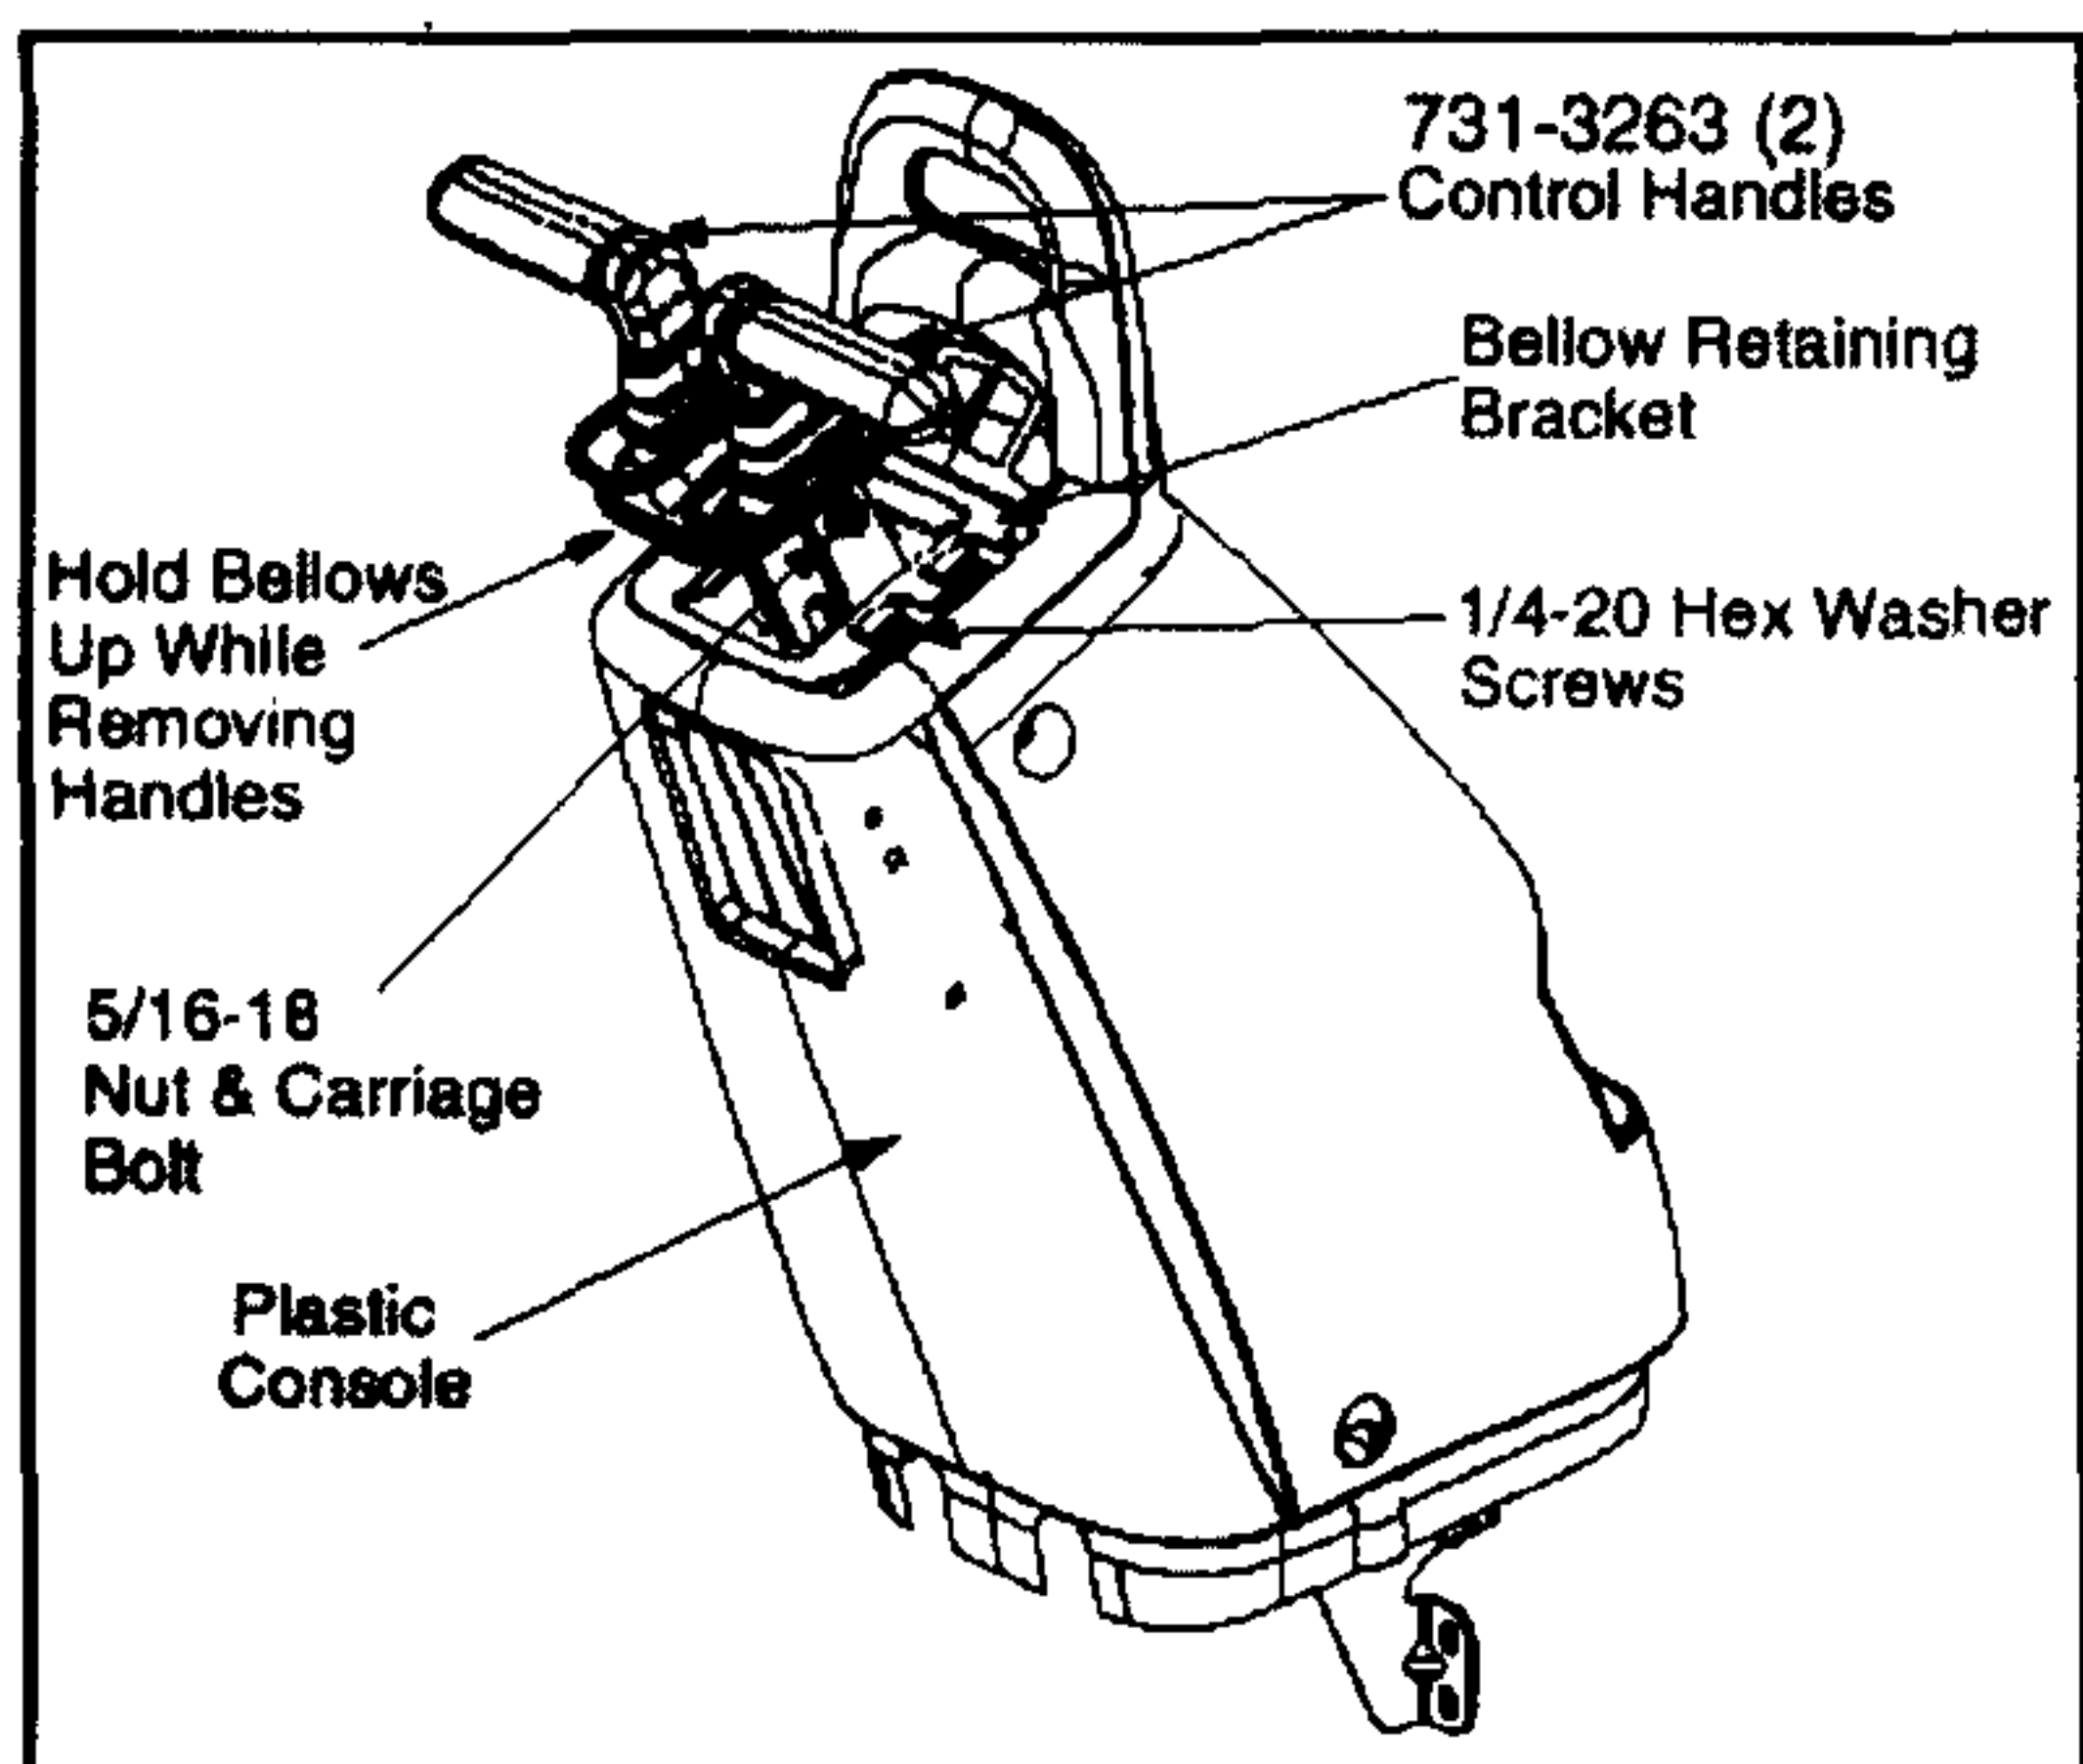

Figure 1
1. Remove bellows from bellow retaining bracket. See Figure 1.